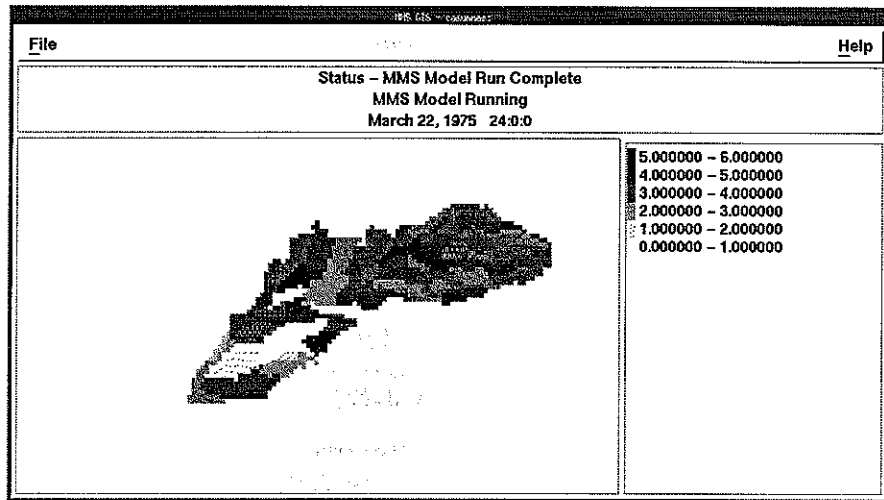

Figure 4.19 GIS Animation window.
**GIS Animation Options** - This option enables a user to view the change in a selected spatially distributed variable overlaid on a GIS developed map of a watershed (fig. 4.19). The changes are displayed on the map for each time step as the model is running, thus providing an animated view of the changes.